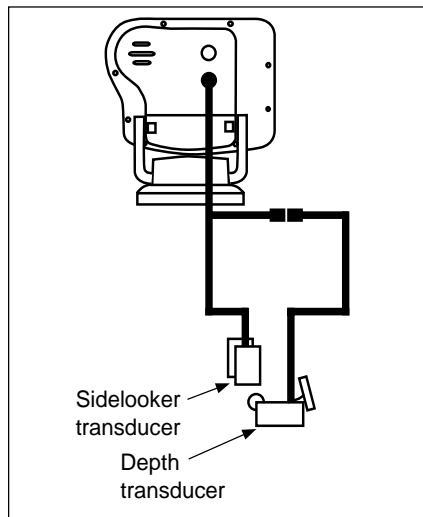

Fig. 2-15
1. If the installation includes the optional Sidelooker transducer, there will be two transducer cables. See Fig. 2-15. The cable from the Sidelooker includes a "Y" connector, and is 12' long (3.6 m).